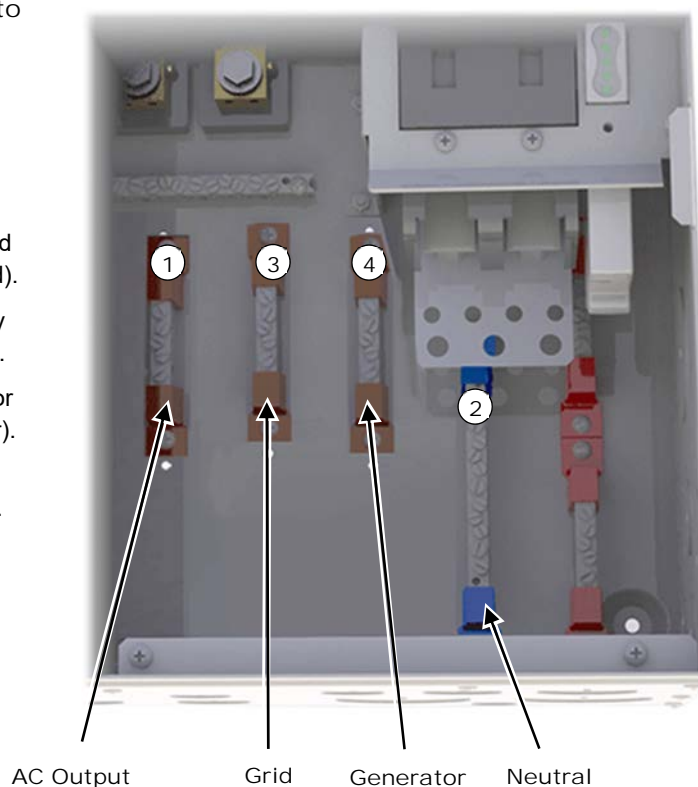

Figure 35 AC Terminal Bus Bars (single-phase)
The neutral insulator in Figure 35 is in the position which opens the bond.
If the GSLC has no bypass assembly, connections should be made directly to each TBB from the circuit breakers for the inverter, AC sources, and loads. These connections are designated in Figure 35.
3. Designate the third AC circuit breaker as the disconnect for one AC source (**GRID** or **GEN**). Install a wire from the TBB of the appropriate source circuit (as shown in Figure 35) to the left side of that disconnect as marked by 3.